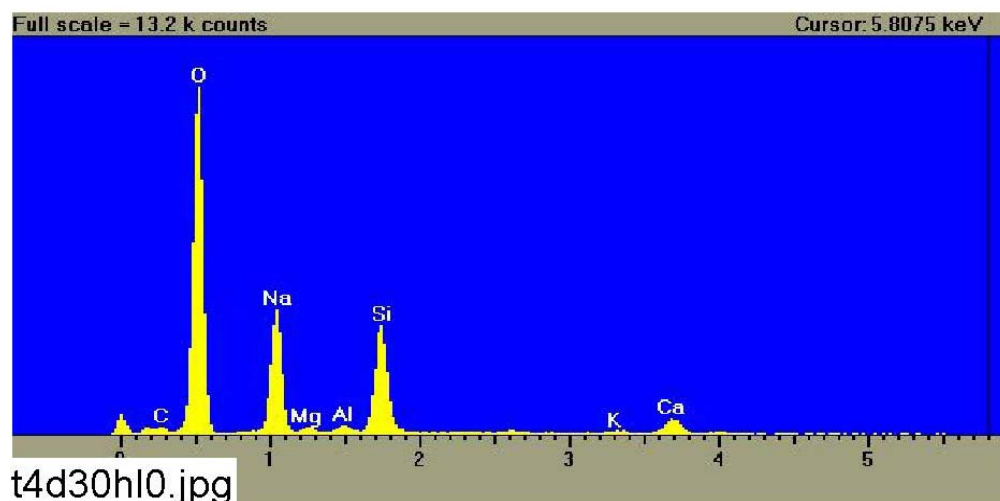

Figure C5-9: EDS counting spectrum for the spot of substance attached on fiberglass shown in Figure C5-8. (t4d30hI0.jpg)
- Figure C5-9: EDS counting spectrum for the spot of substance attached on fiberglass shown in Figure C5-8. (t4d30hI0.jpg)..... C5-9